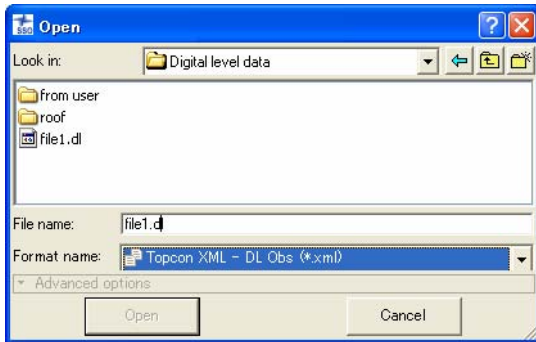

Figure 3-13. Import DL Obs File
4. Click **Open** to import the file (Figure 3-13 on page 3-13).